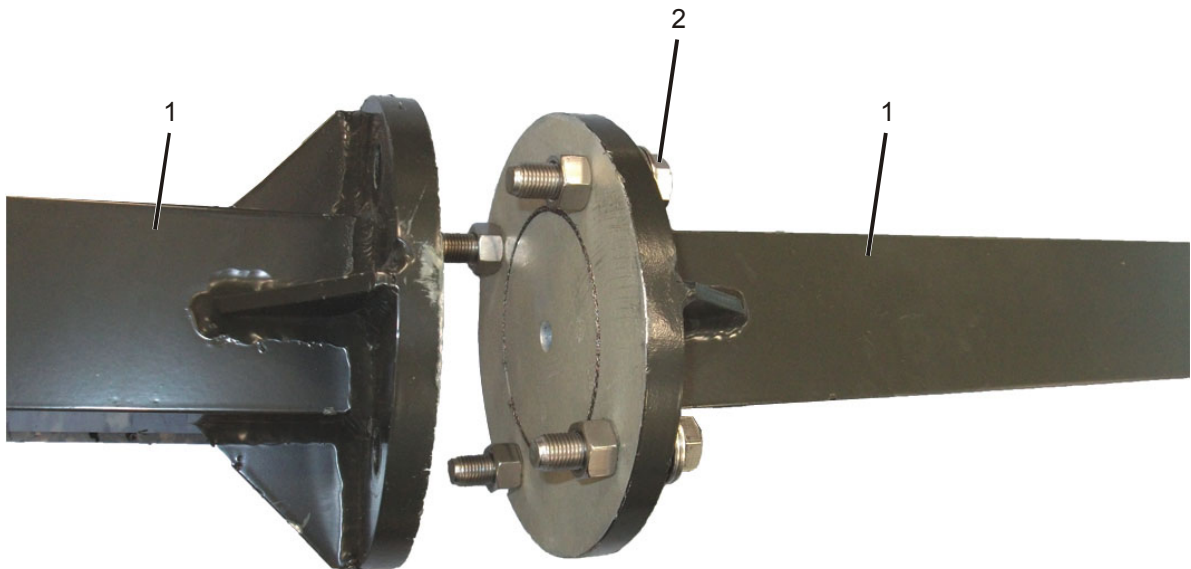

Figure 2-15. Upper Beam Connection
- d. Connect the two upper beams (1) to each other using four bolts, spring washers, flat washers and nuts (2) (See Figure 2-15).